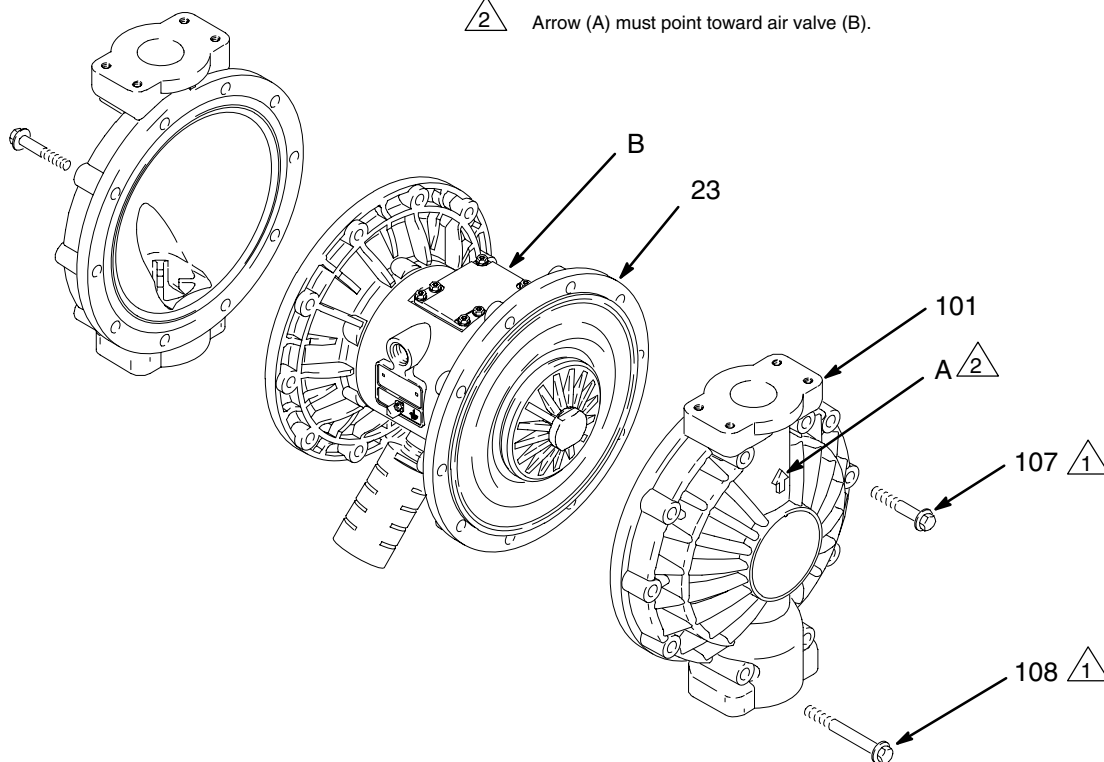
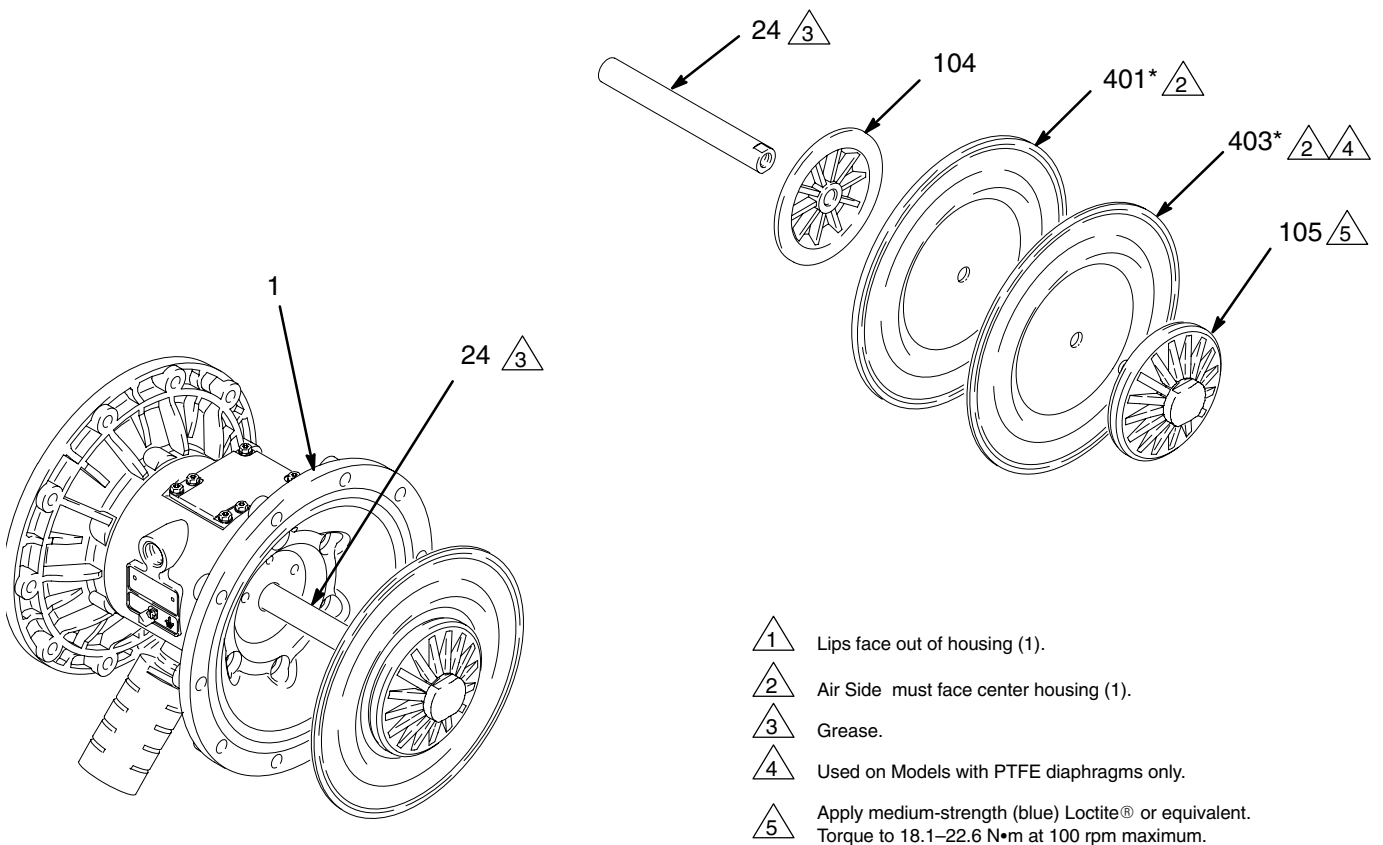

Fig. 12
Fig. 13
3. Using 13 mm socket wrenches, remove the screws (107 and 108) holding the fluid covers (101) to the air covers (23). Pull the fluid covers (101) off the pump. See Fig. 12.
- 1 You must torque the eight long screws (108) first, then the short screws (107). Torque to 22–25 N•m. See **Torque Sequence**, page 30.
- 2 Arrow (A) must point toward air valve (B).
4. Unscrew one outer plate (105) from the diaphragm shaft (24). Remove one diaphragm (401), and the inner plate (104). See Fig. 13.
1. Grease the shaft u-cup packings (402*) and install them so the lips face **out** of the housing (1). See Fig. 13.
2. Grease the length and ends of the diaphragm shaft (24) and slide it through the housing (1).
3. Assemble the inner diaphragm plates (104), diaphragms (401*), PTFE diaphragms (403*, if present), and outer diaphragm plates (105) *exactly* as shown in Fig. 13. These parts **must** be assembled correctly.
4. Apply medium-strength (blue) loctite® or equivalent to the threads of the fluid-side plates (105). Hold one of the outer plates (105) with a wrench and torque the other outer plate to 18.1–22.6 N•m, at 100 rpm maximum. Do not over-torque.
5. Align the fluid covers (101) and the center housing (1) so the arrows (A) on the covers face the same direction as the air valve (B). Secure the covers with the screws (107 and 108), handtight. Install the longer screws (108) in the top and bottom holes of the covers. See Fig. 12.
6. First, torque the longer screws (108) oppositely and evenly to 14.7–16.9 N•m, using a 13 mm socket wrench. Then torque the shorter screws (107). See **Torque Sequence**, page 30.
6. Remove the air cover gaskets (22). Always replace the gaskets with new ones.
7. Use a bearing puller to remove the diaphragm shaft bearings (19), air valve bearings (12) or pilot pin bearings (15). Do not remove undamaged bearings.
8. If you removed the diaphragm shaft bearings (19), reach into the center housing (1) with an o-ring pick and hook the u-cup packings (402), then pull them out of the housing. Inspect the packings. See Fig. 13.